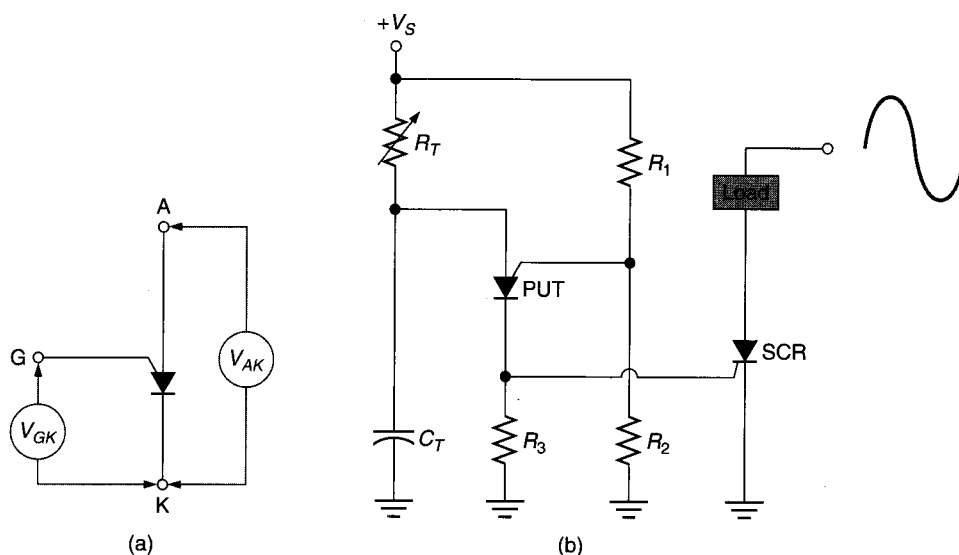

FIGURE 20.36 A simple PUT relaxation oscillator.
The PUT is a four-layer device that is very similar to the SCR. In this case, however, the gate is used as a *reference* terminal rather than as a triggering terminal. The schematic symbol for the PUT is shown, along with an application circuit, in Figure 20.36. Note the similarity between the PUT schematic symbol and the SCR schematic symbol. The similarity in schematic symbols between the two devices indicates the similarity in their operation.
10. Explain the operation of the *PUT relaxation oscillator* in Figure 20.36.